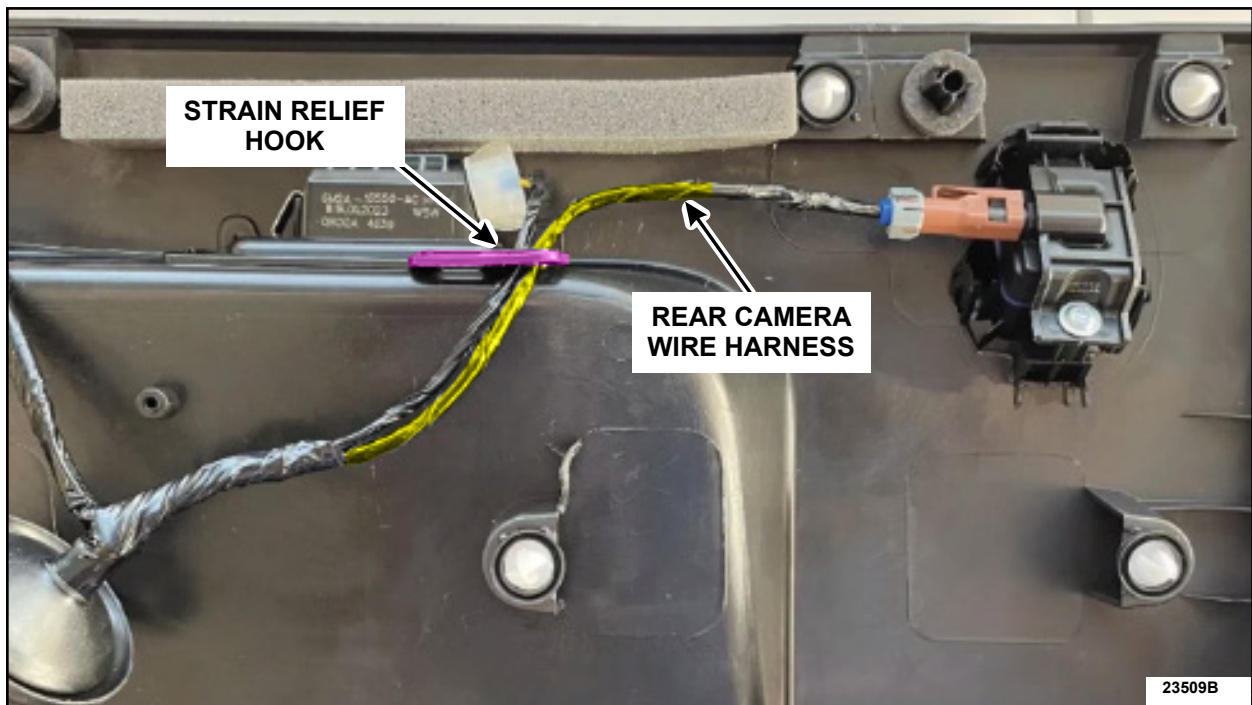

FIGURE 9
4. Route the rear camera harness into the strain relief hook. See Figure 9.